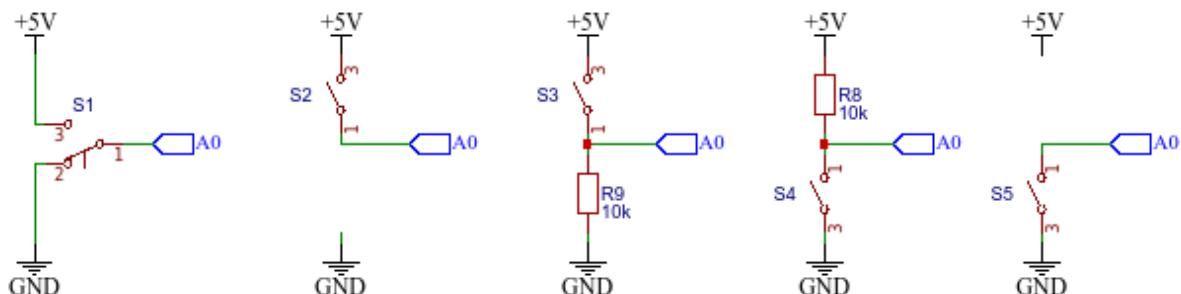

Figure 6.1: Different options of wiring the push-button-switch.
1. Connect the push-button-switch according to first diagram on fig. 6.1 and test the program prog. example 6.1
2. Try to connect the bush-button-switch according to second diagan on fig. 6.1
Try to understand why this setup is not working. And test all other options in fig. 6.1
3. Solve the problem by constructing a `voltage divider` with `pull-down` resistor (third diagan on fig. 6.1).
5. Change the setup of PBSW and resistor to a `pull-up` setup (fourth diagan on fig. 6.1). What is changed?
6. Enable internal `pull-up` resistor (and remove external one - fifth diagan on fig. 6.1).